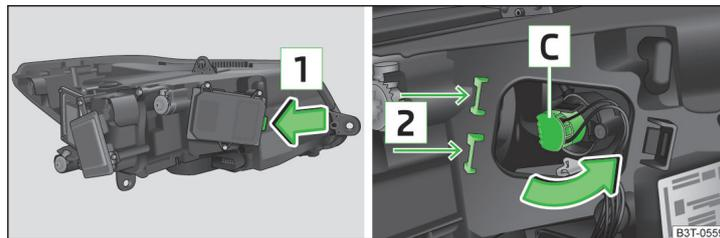

Fig. 205 Headlights with Xenon light: Changing the bulb for the main beam
- › Unlock the protective cap in the direction of arrow **1** » Fig. 205 and remove.